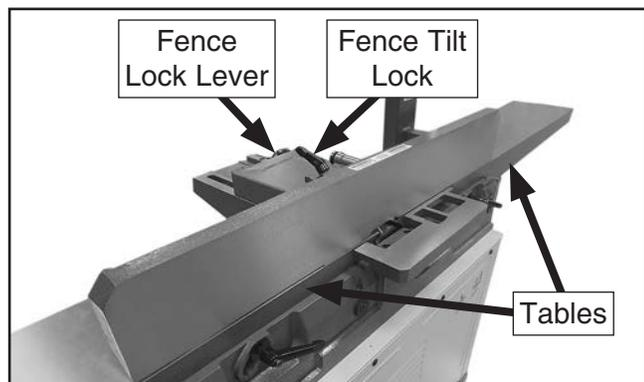

Figure 22. Fence moved to front of tables to check alignment.
12. Loosen fence lock lever and fence tilt lock, make sure fence is at 90° position, then move fence all the way forward to verify it is aligned with *front* edge of tables (see **Figure 22**).